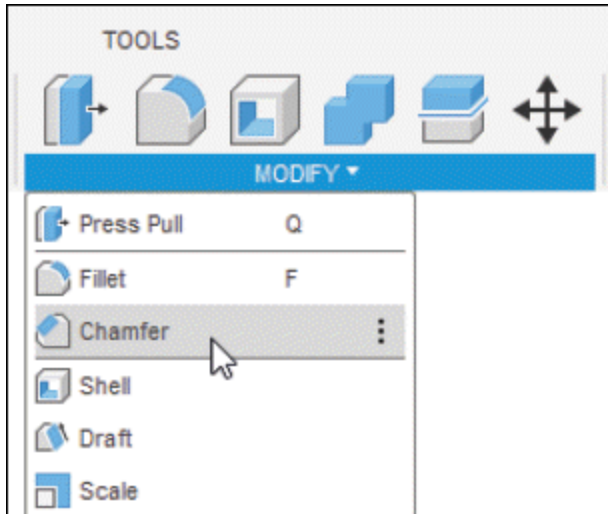
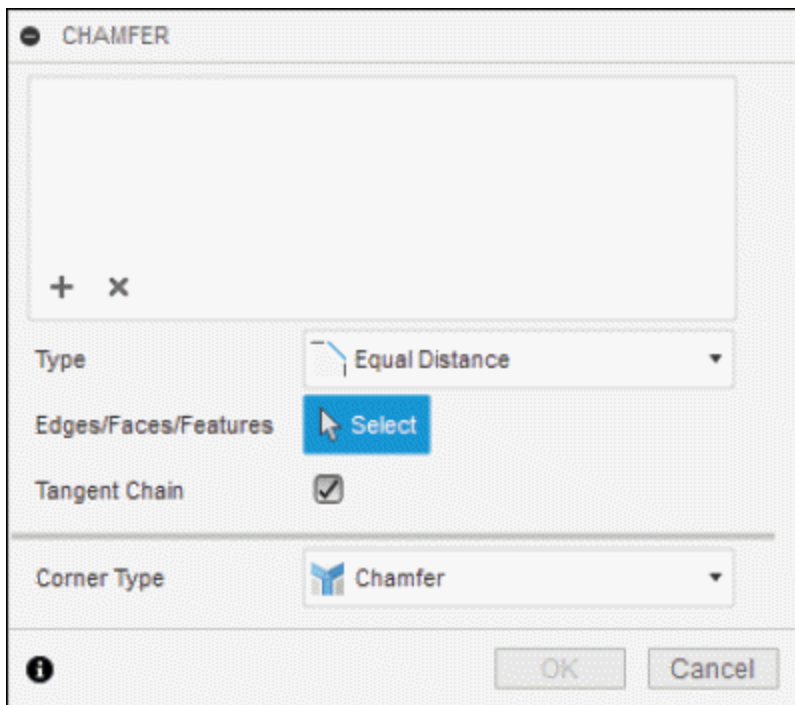

Figure-20. Chamfer tool
Figure-21. CHAMFER dialog box
- Click on the **Chamfer** tool of **MODIFY** drop-down from **Toolbar**; refer to Figure-20. The **CHAMFER** dialog box will be displayed; refer to Figure-21.